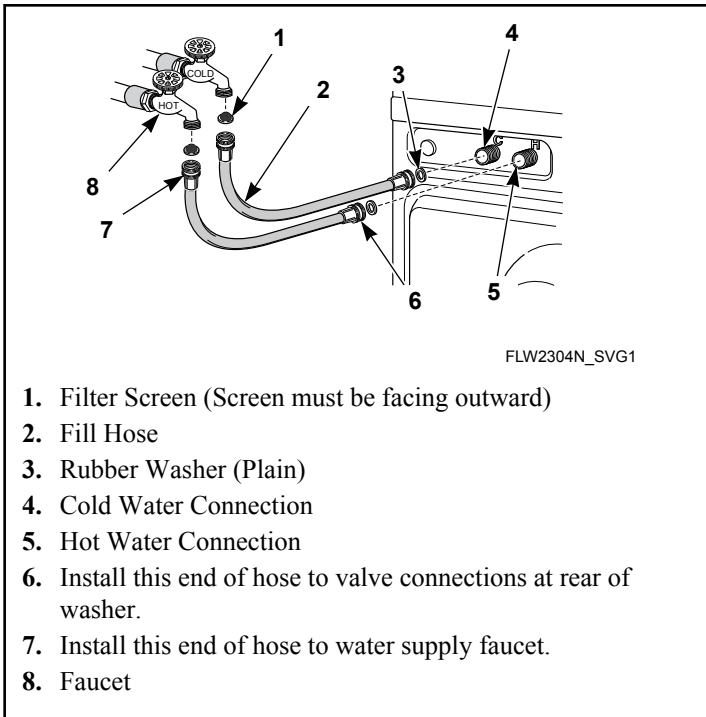

Figure 6
2. Install them into each end of the fill hoses as shown in *Figure 6*. The screen must be facing outward.
color-coded hose from the hot water faucet goes to the water mixing valve marked “H” and the blue color-coded hose from the cold faucet goes to the valve marked “C”. Refer to Figure 6 .